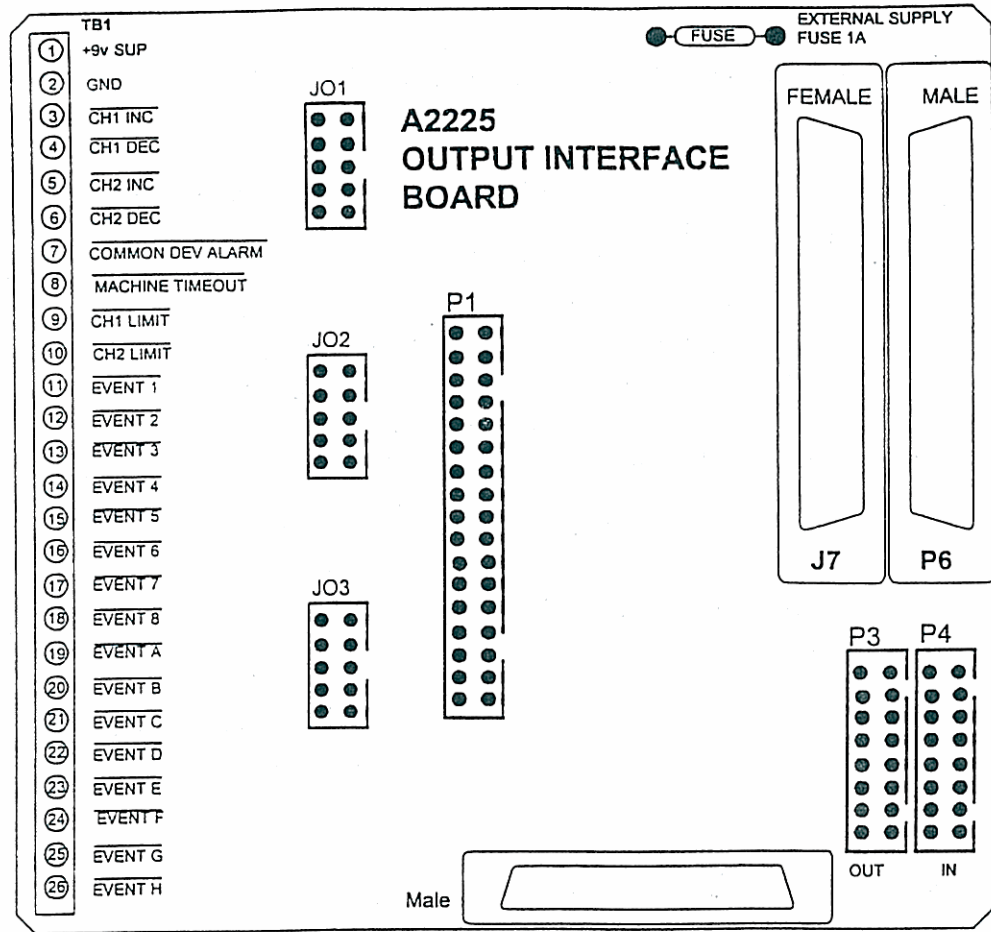

Figure 2-2 A2225 Output Interface Board
Connect controller channel time-proportioning outputs (located on TB1 of the Output Interface Board) to the heat and cool SSR (solid-state relays) at the appropriate terminals [TB1-3 (Heat) and -4 (Cool) for Channel 1, or -5 (Heat) and -6 (Cool) for Channel 2.] TB1-1 is the +9V supply. Figure 2-2 shows connections for typical applications.
Connect ALARM, EVENT, and LIMIT outputs to appropriate terminals of TB1 on the Output Interface Board (Figure 2-2, Item 1). If you are using the Model 620 Event Relay Board, you can connect the cable supplied with that accessory directly to P1 (2); the connector pin assignments correspond with the terminals on TB1.